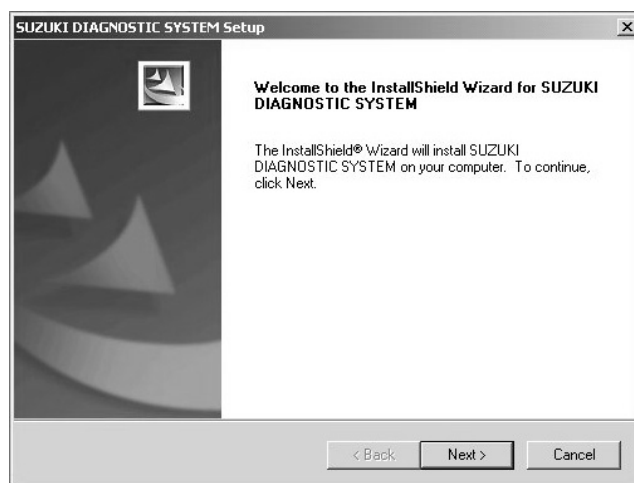

Fig.5
5. To continue the installation, click the “Next” button to proceed to the next step. (Fig.5)